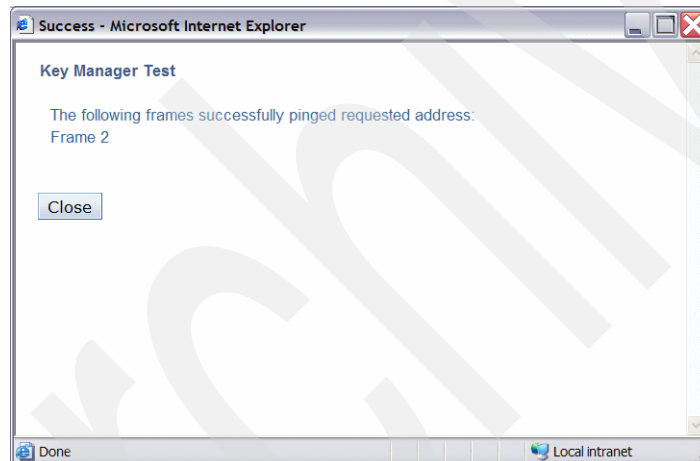

Figure 6-73 Verification of key manager connection successful
- If the connection succeeds, a confirmation window is displayed (Figure 6-73).